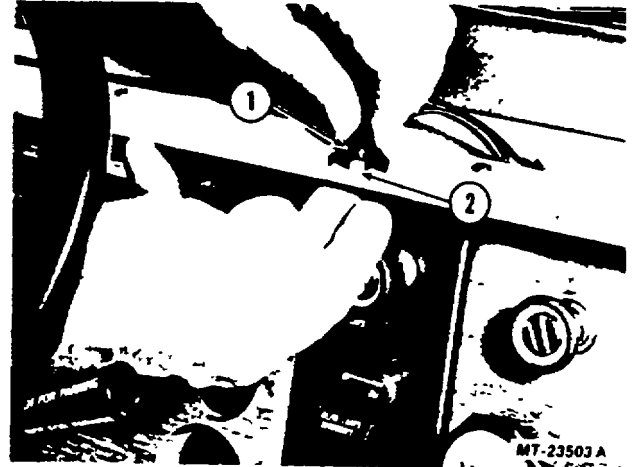

Fig. 17 Instrument Panel Control Light
1. Remove nine (9) screws and remove instrument panel top cover.
3. Disconnect light assembly wiring connector from wiring harness connector (Figure 17).
4. Disengage slot of light assembly from lens to remove light assembly (Figure 17).